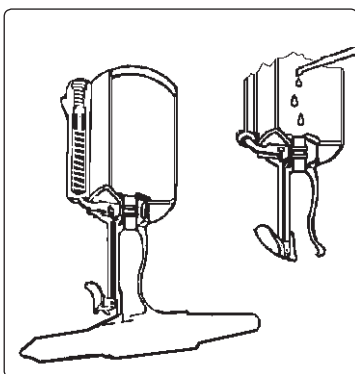

fig.3
- 5.1.4. Pump hydraulic oil into hydraulic cylinder until it overflows from the cylinder neck, (fig 3) and wipe any excess oil away with a dry cloth.